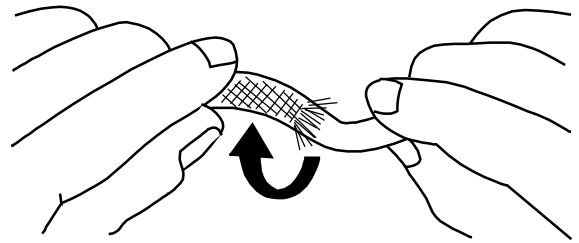

Figure 3.4.1A
- B. Flare shielding to allow easy insertion of male drive ferrule (See Table One, Column C) by bending and rotating silicone insulation (See Figure 3.4.1A).